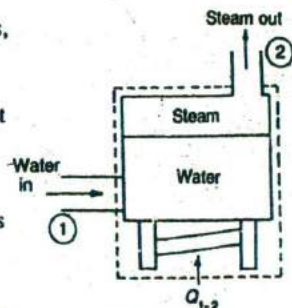

Fig. 3.29. Boiler.
1. *Boiler*. A boiler, as shown in Fig. 3.29, is a device which supplies heat to water and generates steam. In this system, there is no change in kinetic and potential energies.